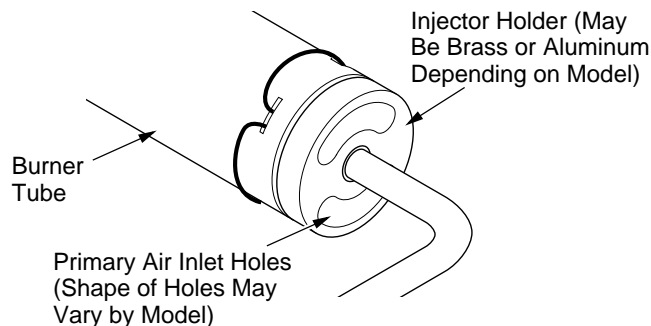

Figure 40 - Injector Holder On Outlet Burner Tube
2. Inspect burner, pilot, and primary air inlet holes on injector holder for dust and dirt (see Figure 40).